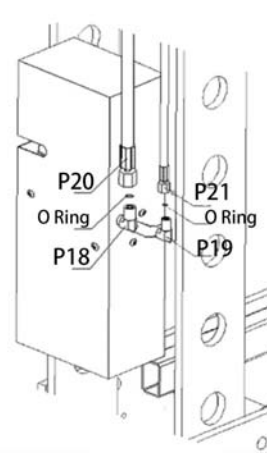

Figure 3
- 7) Remove the plug from the hose fittings (#P18, #P19) and oil hose (#P20, #P21), then connect the oil hose (#P20) to fitting (#P18) and oil hose (#P21) to fitting (#P19) and tighten. (Refer to Figure 3).